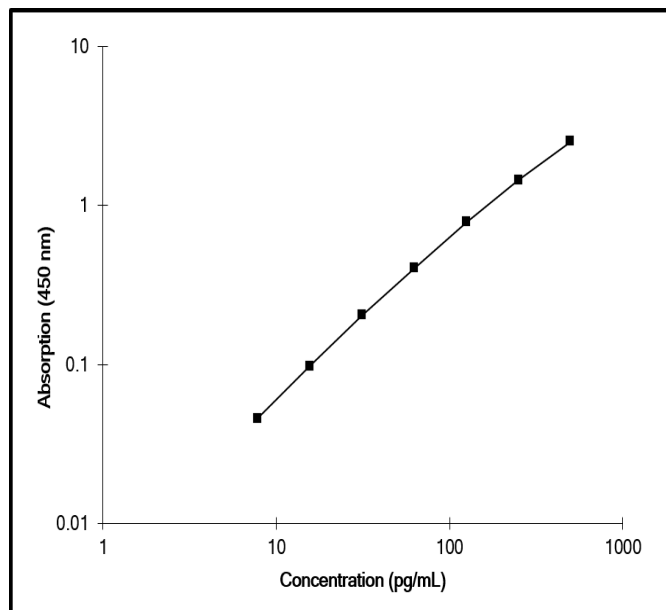

Fig. 9 Representative standard curve for IL-31 Human ELISA Kit. Human IL-31 was diluted in serial 2-fold steps in Sample Diluent.
5. Repeat serial dilutions 5 more times thus creating the points of the standard curve (see Figure 9).
- A representative standard curve is shown in Figure 9.